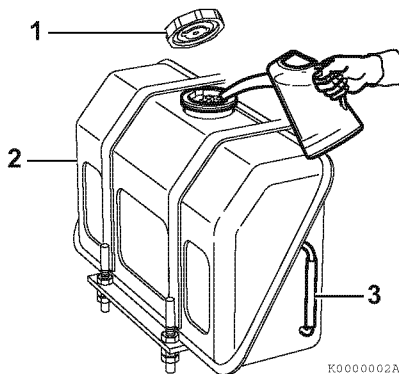

Figure 4-19
1. Clean the area around the fuel cap (**Figure 4-19, (1)**).
2. Remove the fuel cap from the fuel tank (**Figure 4-19, (2)**).
3. Observe the fuel level sight gauge (**Figure 4-19, (3)**) and stop fueling when the gauge shows the fuel tank is full. Never overfill the fuel tank.
4. Replace the fuel cap (**Figure 4-19, (1)**) and hand tighten. Over-tightening the fuel cap will damage it.